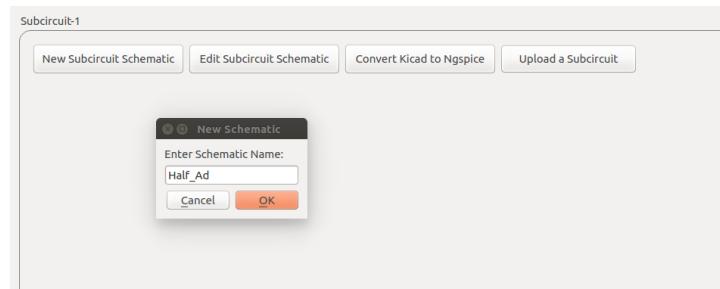

Figure 8.2: New Sub circuit Window
- After opening the Subcircuit tool, click on **New Subcircuit Schematic** button. It will ask the name of the subcircuit. Enter the name of subcircuit (without any spaces) and click **OK** as shown in Fig. 8.2.
4. Give the same name that was used for creating the new subcircuit's internal diagram, refer Fig. 8.2.
And make sure that the .sub file is present under the directory carrying the name of the subcircuit that you specified in step in Fig. 8.2.